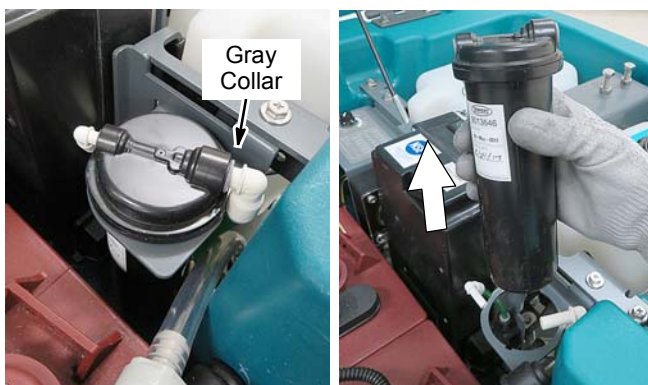

FIG. 151
3. Disconnect the two hose connectors from the top of the cartridge by pressing the gray collars inward and pulling the connectors outward (Figure 151). Lift cartridge to remove.